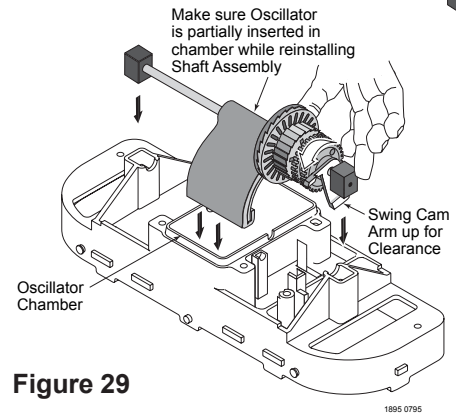

Figure 29
3. Install the long gear shaft and end blocks in the cleaning head with the large arm of the cam down (see Figure 29).